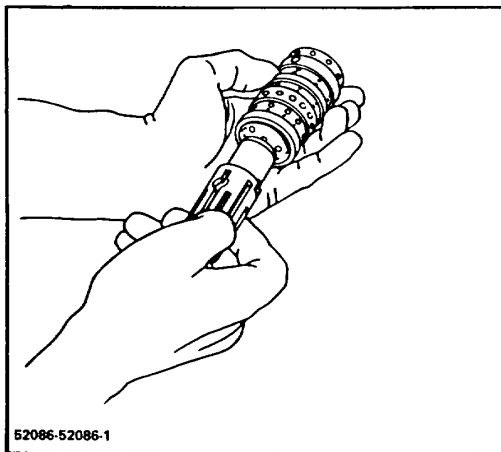

Figure 3-5. Spool Installation
2. Carefully install the spool in the sleeve (Fig 3-5). Be sure that the spring slots of both parts are at the same end. Rotate the spool while sliding the parts together.